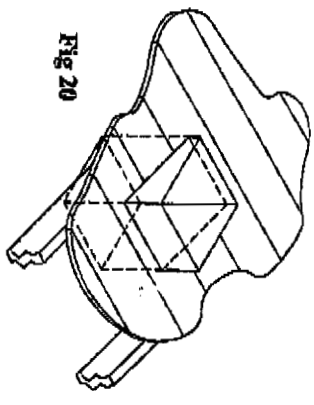
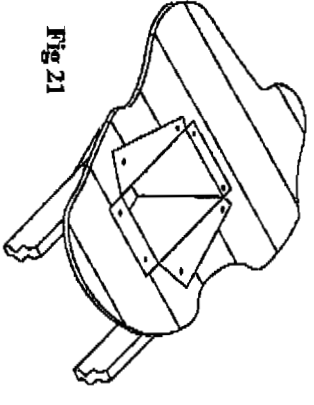

Fig 20
Fig 21
6. Run the Support Box through the roof as shown in Figure 20, and place it so the bottom of the Support Box protrudes at least 2 inches below the finished ceiling. Align the Support Box vertically and horizontally with a level. Temporarily tack the Support Box in place through the inside walls and into the roof sheathing. Using tin snips, cut the Support Box from the top corners down to the roof line and fold the resulting flap over the roof sheathing (Figure 21). Before nailing it